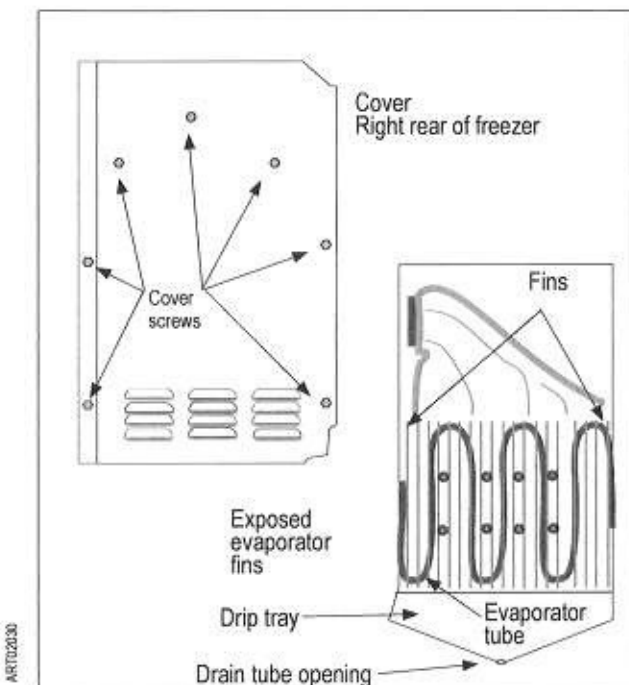

Figure 5. Evaporator Cover/Exposed Fins
- Use a nut driver to remove the evaporator cover screws. Refer to Figure 5.
- Insert the tapered tip of the heater strip into the drain tube opening with the hole at the top of the strip (refer to Figures 5 and 6), and press the strip firmly against the bottom of the drip tray. Refer to Figures 7.
1. Hold the cover in place and use the nut driver to replace its seven screws. Refer to figure 5.